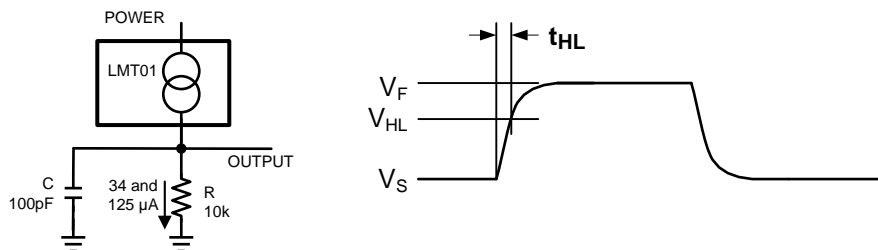

Figure 19. Simple RC Model for Rise and Fall Times
Stray capacitance can be introduced when connecting the LMT01-Q1 through a long wire. This stray capacitance will influence the signal rise and fall times. The wire inductance has negligible effect on the AC signal integrity. A simple RC time constant model as shown in Figure 19 can be used to determine the rise and fall times.
- RC as shown in Figure 19